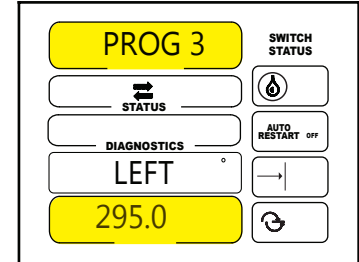

Figure 61-1
2. Set left angle of sector and the direction. See figure 61-1.